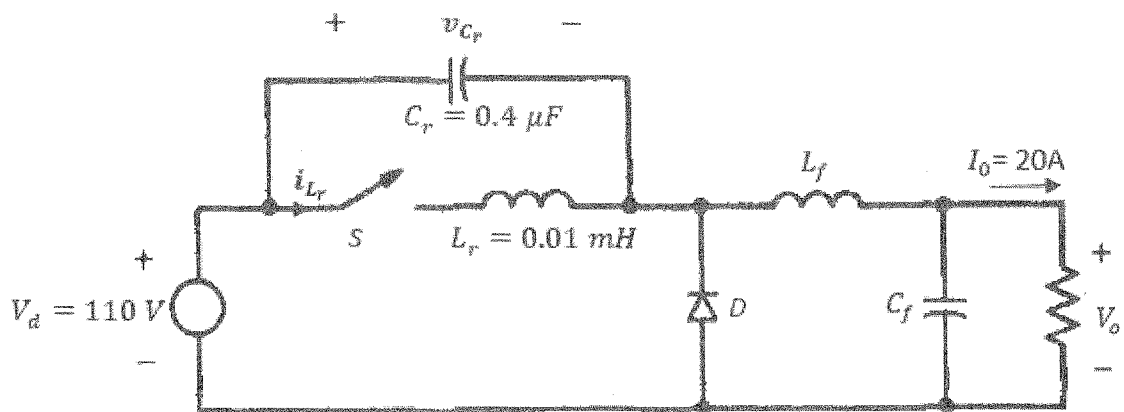

Figure Q1 : ZCS step down DC-DC converter
b) In order to overcome the drawbacks mentioned in part a) ii), a step down DC-DC converter can be modified using a simple LC resonant circuit based on the parallel resonant circuit concept as shown in Figure Q1.
ii) Calculate the characteristic impedance (Z_0) value and the maximum current through the resonant inductor for the given values in Figure Q1.